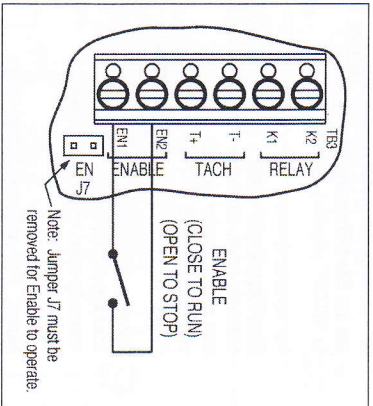

FIGURE 11 – ENABLE CONNECTION
K. Enable Connection – The Enable is used to electronically start and stop the control. When the Enable contact is closed, the control will accelerate to the Main Speed Potentiometer setting. When the Enable contact is opened, the control will coast to stop. Wire the Enable contact to Terminals EN1 and EN2 of Terminal Block TB3 as shown in Figure 11. The contacts must be isolated and Jumper J7 must be removed.